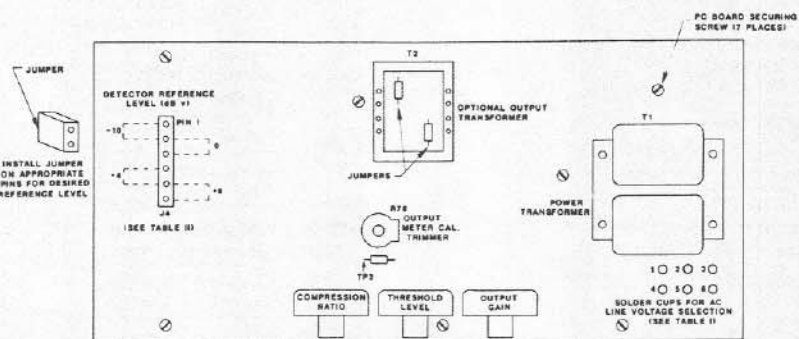

FIGURE 4
3. Select the desired nominal level by placing the jumper on two pins of the six-pin male connector (J4) located near the upper left edge of the circuit board as shown in Figure 4. Table 1 shows the pin numbers to be connected for each available reference level.
4. Feed a 1-kHz signal with an amplitude of the desired nominal level (for a "0-dB" meter indication) to the signal input. Then adjust the meter calibration trimmer (R78), located near the center of the circuit board, until the meter indicates "0 dB." See Figure 4 for the location of the calibration trimmer.
3. Remove the seven screws securing the printed circuit board. Locate the mounting holes near the top of the circuit board. See Figure 4 for these locations.
3. Locate the six voltage selection solder cups on the right side of the circuit board in front of the power transformer. See Figure 4 for location. Referring to Table 2, unsolder the jumper wires from the solder cups and resolder them in accordance with the pin designations that correspond to the desired operating voltage.